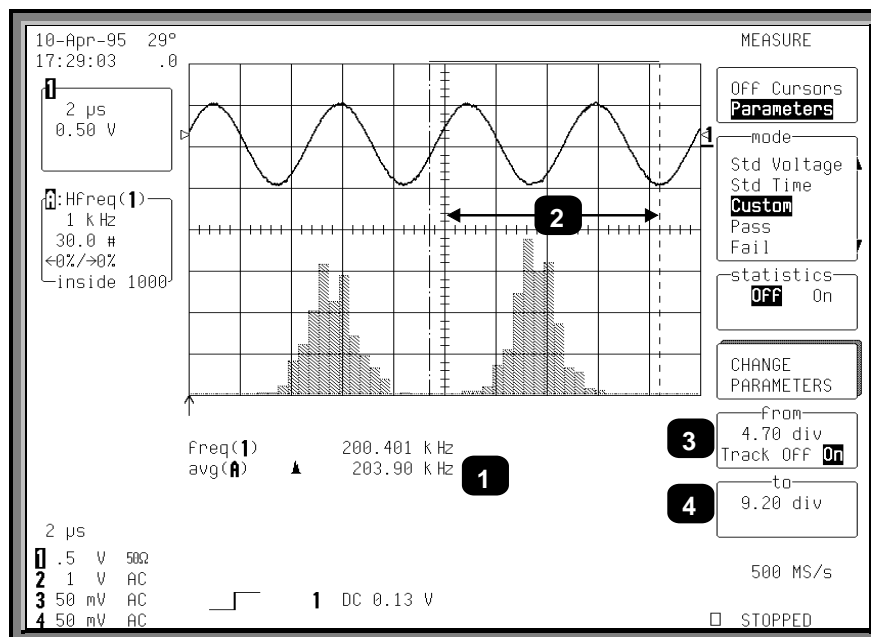

Figure 2.8
You can use cursors (see Chapter 4) to select a section of a histogram on which a parameter is to be calculated. Figure 2.8 below shows the average, “avg(A)” (Item ❶) of the distribution between the parameter cursors for a histogram of the frequency (“freq”) parameter of a waveform. The parameter cursors (❷) are set “from” 4.70 divisions (❸) “to” 9.20 divisions (❹) of the display.